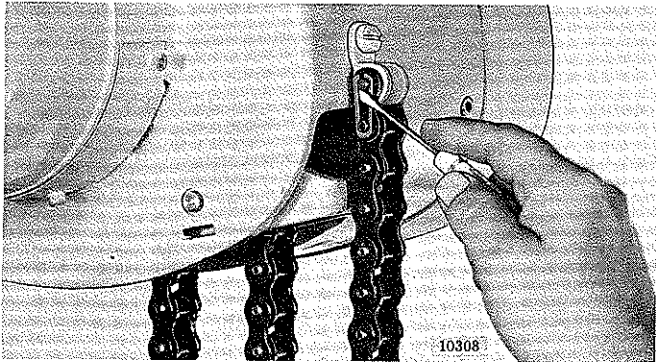

Figure 7-1. Removing Spring Clip from Connecting Link at Tail End of Load Chain (Roller Chain Models)
(1) On models with single-reeved load chains (1/4 thru 1 ton capacities) disconnect tail end of load chain from anchor at side of frame. Remove spring clip and connecting link attaching chain to anchor on roller chain models (fig. 7-1). Remove fillister head screw holding end link to frame on coil chain models. Remove grooved pin from the limit actuator and pull it off end of chain. With hoist connected to power supply, run chain out of hoist by operating in "lowering" direction. (See note following paragraph (2) below and note in Sec. V, par. 5-2, a, (3) for inserting short length of chain.)